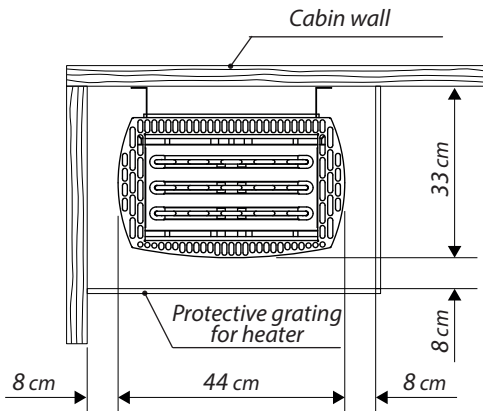

Fig. 1
- The side (horizontal) distances between the heater and the cabin wall and the oven protective grating, bench and other flammable materials are stated in Fig. 1.